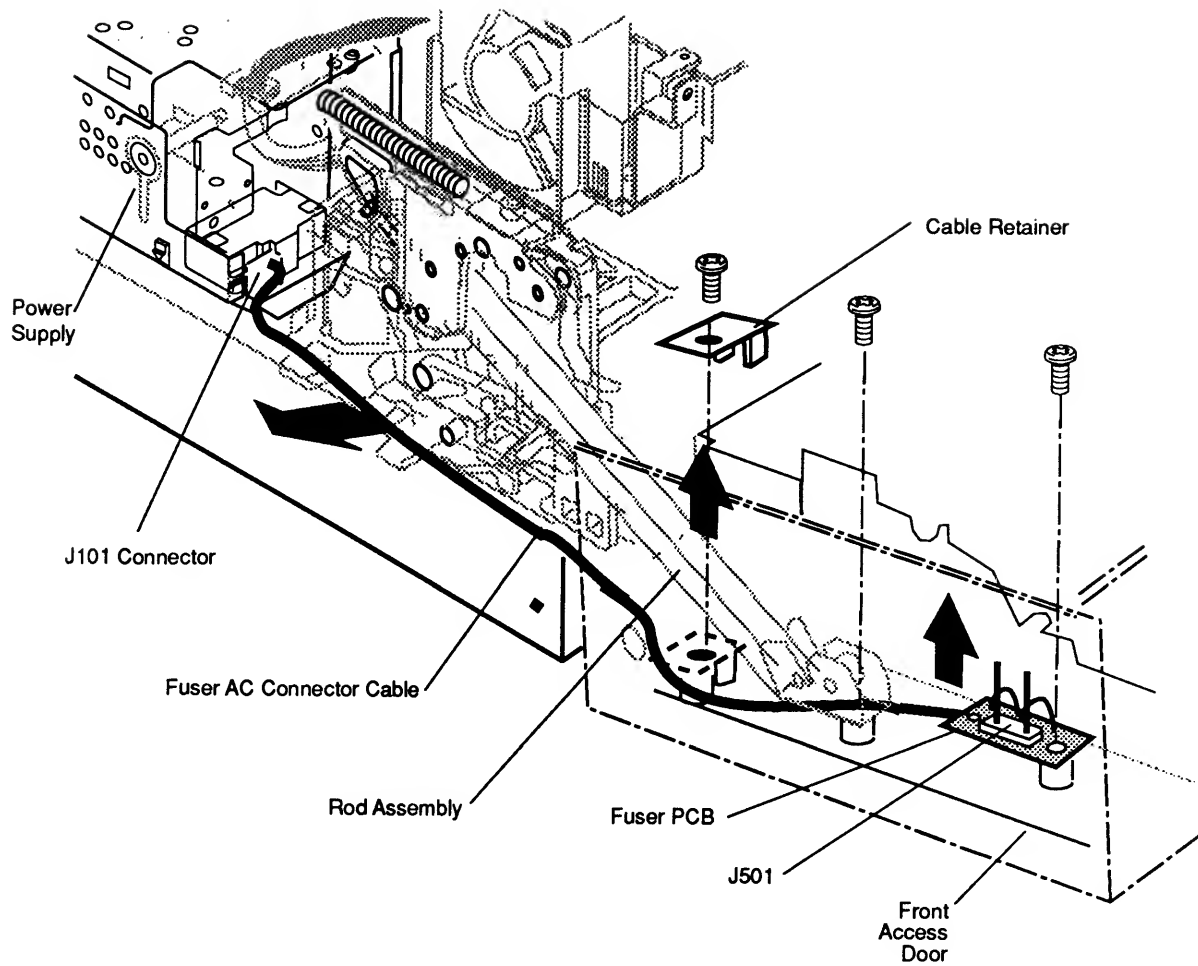

Figure 2-56 Fuser AC Connector Cable
2. Remove the silver-colored screw that fastens the metal end of the rod assembly to the front access door (**Figure 2-56**).
3. Remove the large black screw that holds connector J501 and the fuser PCB to the front access door (**Figure 2-56**).
4. Remove the large black screw holding the black plastic cable retainer to the front access door. Lift out the cable retainer (**Figure 2-56**).
5. Disconnect connector J101 from the power supply unit (**Figure 2-56**).
6. Lift the fuser AC connector cable out of the printer (**Figure 2-56**).
2. Thread the black, fuser AC connector cable along the left side of the printer as shown in **Figure 2-56**.